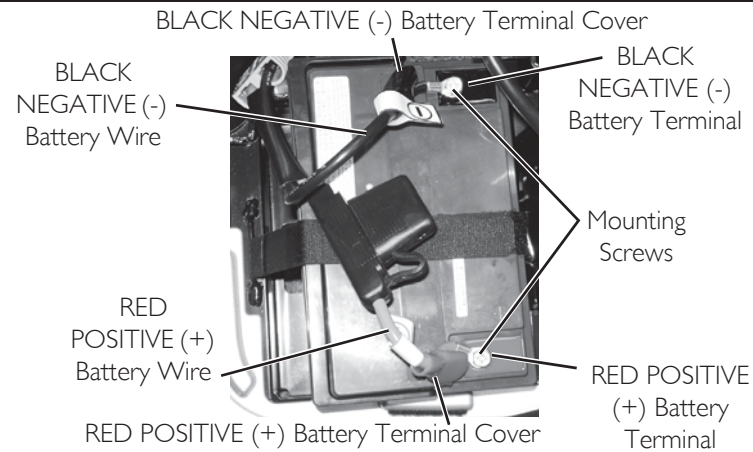

FIGURE 10.2 Removing/Installing the Batteries
When connecting the battery cables to the batteries, the battery cables MUST be connected to the battery terminals/posts as shown in FIGURE 10.2 - otherwise damage to the battery may result.
For this procedure, refer to FIGURE 10.2 on page 49.
3. Pull up to remove the rear cover (Detail “A” of FIGURE 10.2).
4. Open the battery retention strap (Detail “B” of FIGURE 10.2).
6. Remove the batteries from the base frame (Detail “C” of FIGURE 10.2).
7. Pull the battery terminal covers up on the battery wiring harnesses to expose the mounting screws (Detail “D” of FIGURE 10.2).
1. Connect the battery wiring harnesses to the new batteries (Detail “D” of FIGURE 10.2). Use the mounting screws to secure the:
3. Install the two new batteries into the base frame (Detail “C” of FIGURE 10.2).
Orient the batteries as shown in Detail “B” of FIGURE 10.2.
The battery retention strap should go under the battery harnesses as shown in Detail “B” of FIGURE 10.2.
6. Install the rear cover (Detail “A” of FIGURE 10.2).